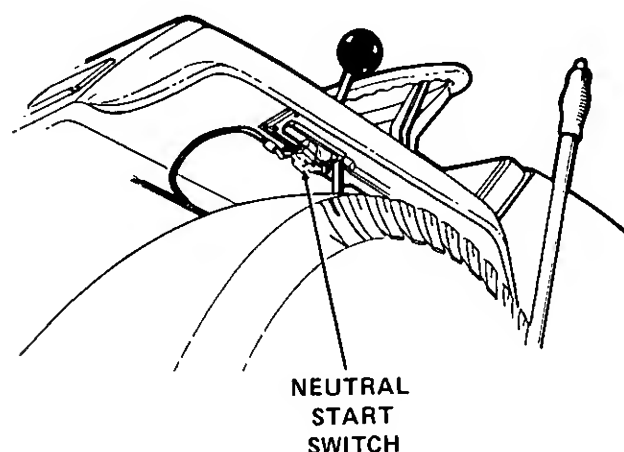

Figure 6.
L. INTERLOCKS (See Figures 6 and 7)